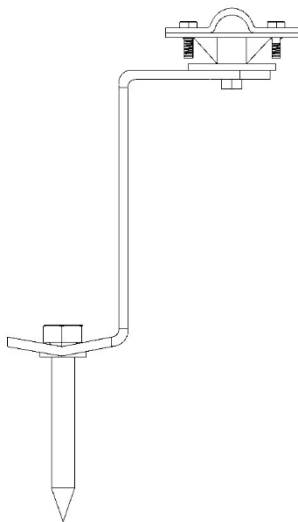

Figure 1.
- Install the Z-bracket plate by placing it into the roof recess such that the PR-bracket plate is in a vertical position (Figure 1).
- Screw the PR-bracket plate to the roof using 2 M8x60 mm screws and 2 M8 rubber washers (Figure 1).
- Tighten the screws such that the Z-bracket plate holds firmly on the roof material (Figure 1).
- Install the lightning rod wire fasteners on top of the Z-bracket plate and screw them together using the M8x20 screw (Figure 1).